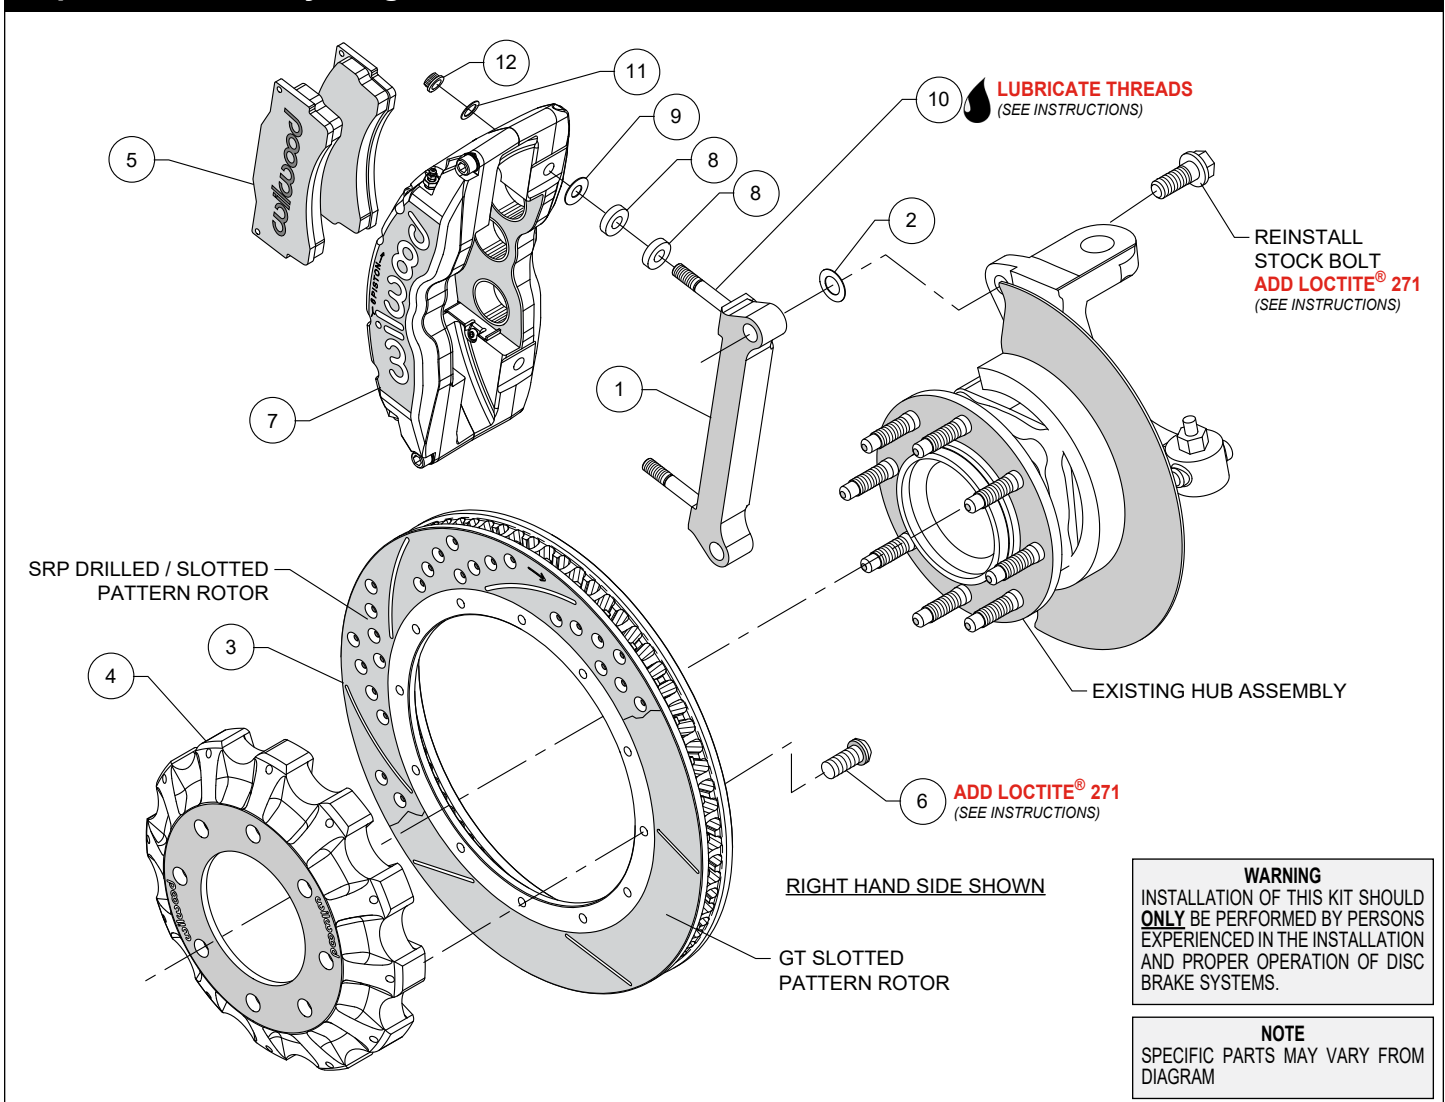

Figure 1. Typical Installation Configuration
NOTE: Numbers in parenthesis refer to the parts list and Figure 1 on the preceding pages.
- The caliper mounting bracket assembly (1) should be installed first with clean, dry threads on the mounting bolts. Install the bracket to the outboard side of the spindle by sliding the stock bolt through from the backside into the bracket(1). Place shim washer (2) between the bracket (1) and the spindle (see Figure 1). The bracket must tighten squarely against the side of the spindle body. Inspect for interference from casting irregularities, machining ridges, burrs, etc. Use one thin shim (2) between the bracket (1) and spindle during initial trial fitting.
- Orient the rotor (3) and the hat (4) as shown in Figure 1. Attach rotor to hat using bolts (6). Apply red *Loctite*® 271 to the bolt threads and torque to 25 ft-lb using a criss-cross pattern.
- NOTE:** *Please reference the caution statement at the beginning of the assembly instructions.* Install two spacers (8) and one shim washer (9) over each pre-installed stud (10) on the radial mount bracket (1). Slide the caliper (7) in place over the studs and rotors and install the washer (11) and lock nut (12) to hold the caliper in place. The caliper bleed screws should be pointing up. Snug the lock nuts (12) and check that the rotor (3) is centered in the caliper (7). Add or subtract .024" shims (2) as necessary between the caliper mounting bracket (1) and the spindle to center the caliper (7).
- Remove the two caliper center bridge pad retainer bolts, nuts, tubes, and anti-rattle spring from the caliper. Slide the brake pads (5) into place. They should install easily without interference. Check that the outside radius of the brake pad is aligned with the outside diameter radius of the rotor face. Add or subtract shims (9) between the caliper and mount bracket to gain the proper alignment. Reinstall the center bridge pad retainer tubes, bolts, locknuts and anti-rattle spring. The locknut should be snug without play in the bolt or tube. Be cautious not to over tighten.
- Once all clearances have been checked, remove the wheel, caliper, hat, and rotor from the spindle and hub. Secure the caliper mounting bracket (1) to the spindle with stock bolts using red *Loctite*® 271. Torque the bolts to manufacturer's specification. Reinstall the hat and rotor assembly and again use lug nuts to hold it in place. Lubricate caliper mounting studs and nuts with lightweight oil, reinstall the caliper, torque the caliper nuts (12) to 47 ft-lb.